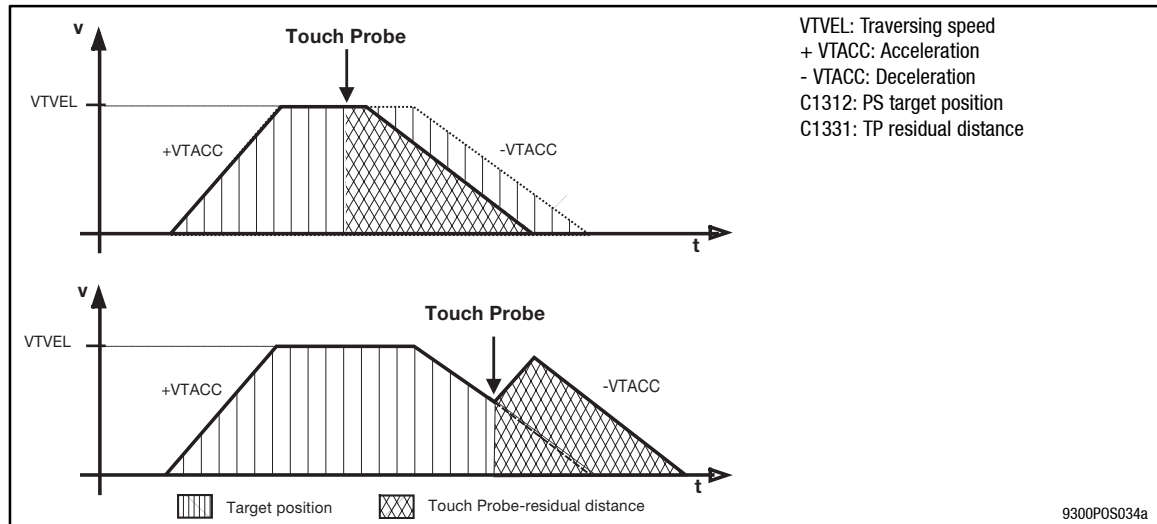

Fig. 7-37 Speed profile of a TP positioning
- The TP input can be enabled for the entire TP positioning process or for parts of it. Target position, TP residual distance and TP window determine the restricted area (fig. 7-37).